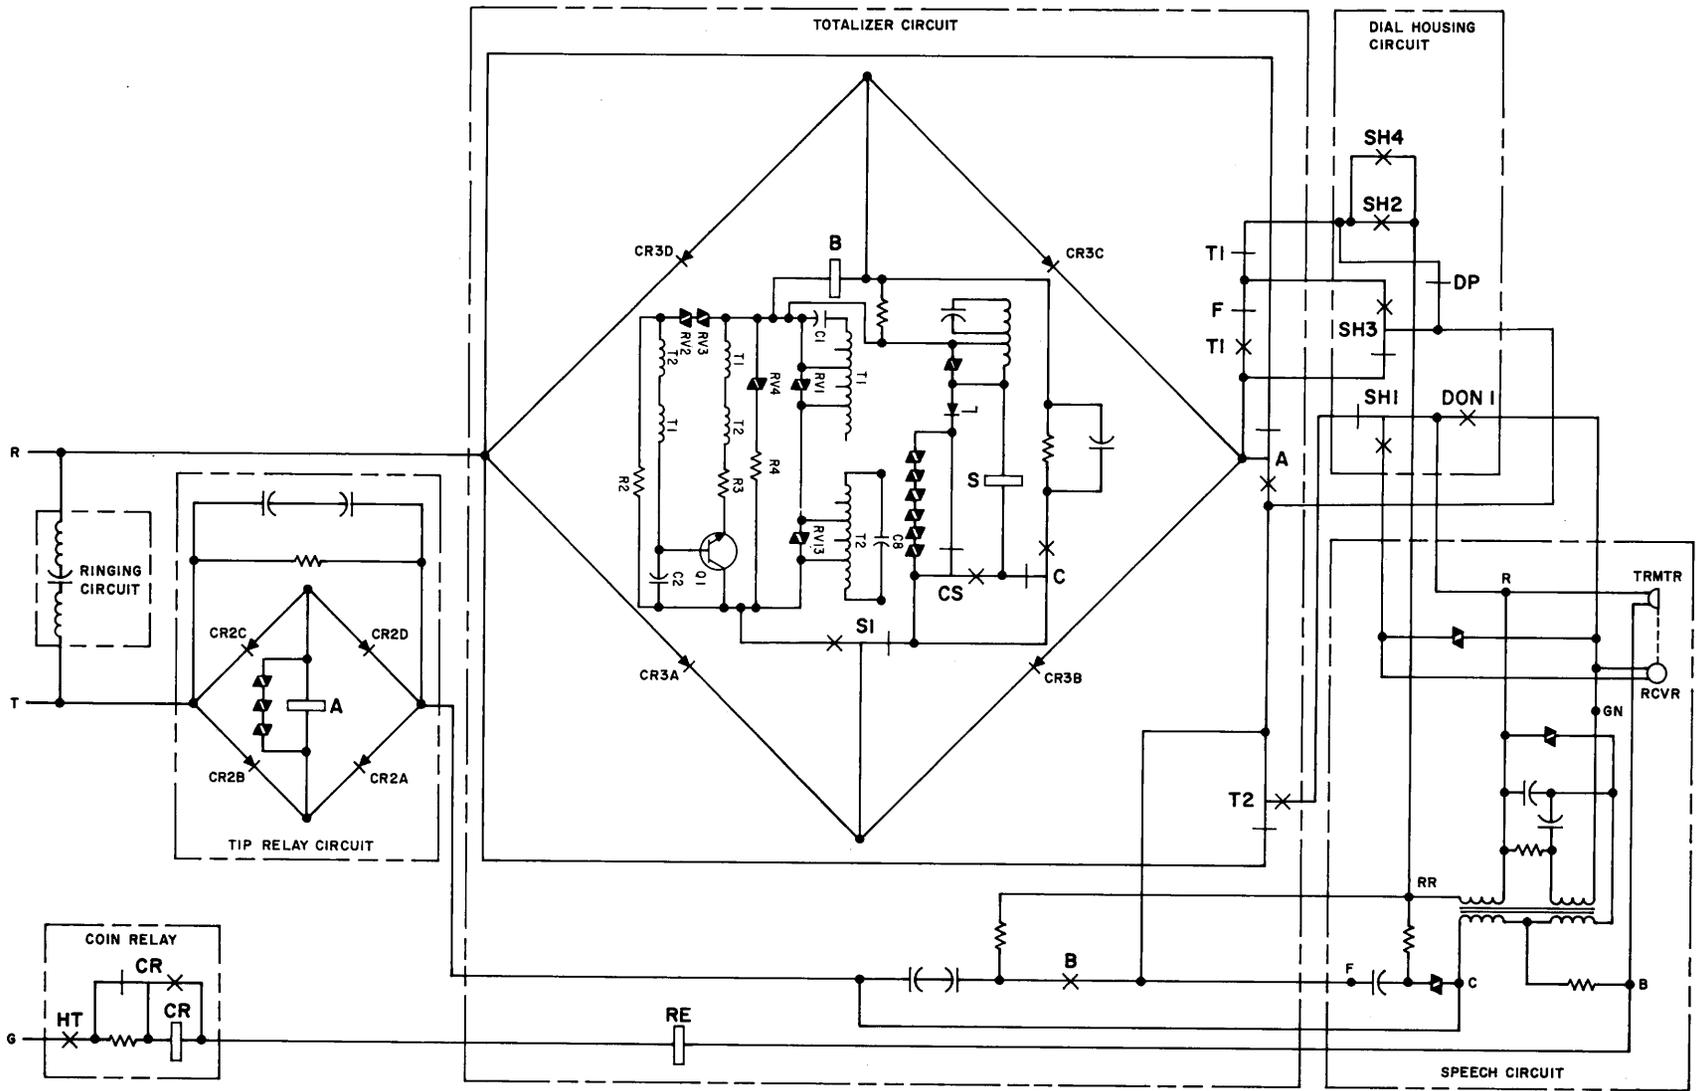

Fig. 11—1C1/2C1 Coin Telephone Set—Schematic (CF Mode)
2.23 Tip Relay Circuit (Used in CF Only) (Fig. 11 and 12).
COIN FIRST SERVICE (Fig. 11 and 12)